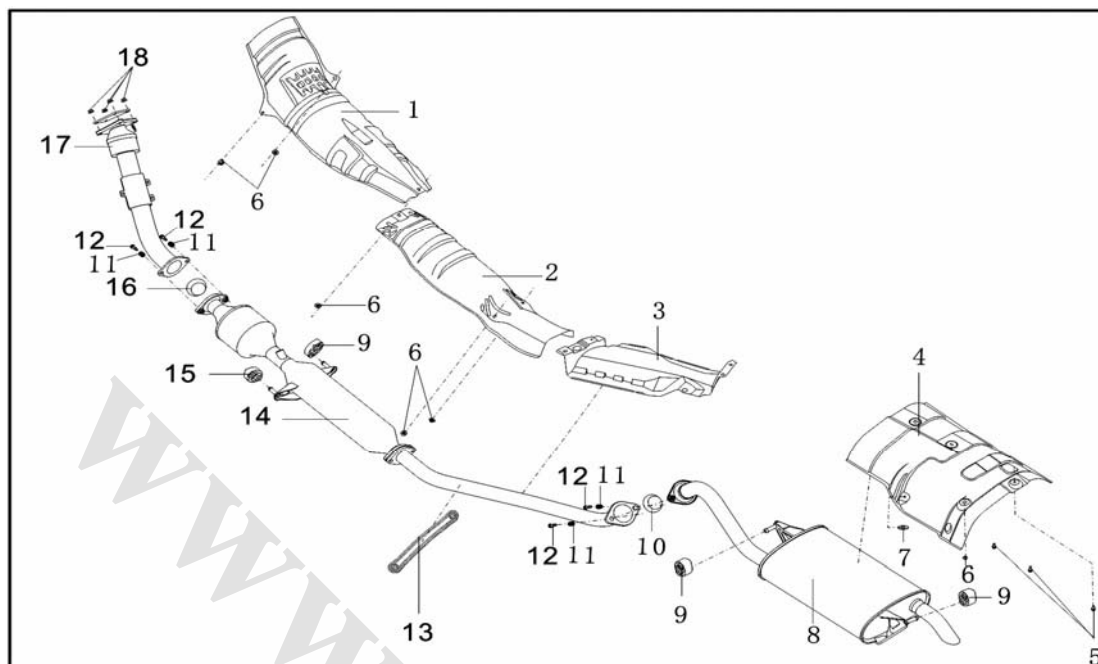

Fig. 2-83
1. Removal and installation (Fig. 2-83 shows the exhaust system of the TRITEC1.6L engine)
- 2) See Fig. 2-83 for removal order.